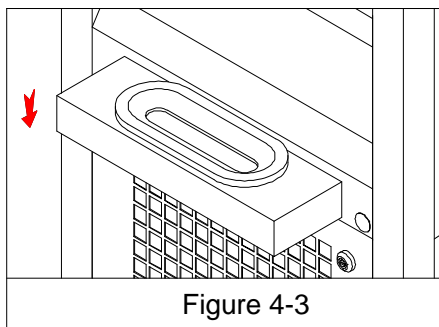

Figure 4-3
- E. Install the drip tray on the freezer (Figure 4-3).